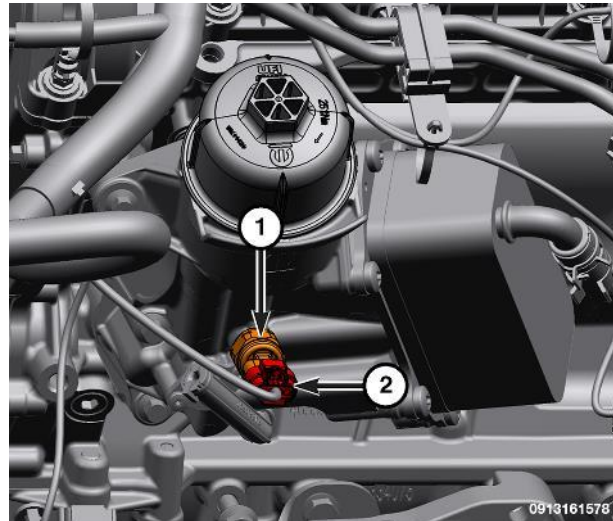

Figure 18 – Oil Pressure Sensor Connector
25. Disconnect the oil pressure sensor wire harness connector (2) (Figure 18).
34. Connect the oil pressure sensor wire harness connector (2) (Figure 18).